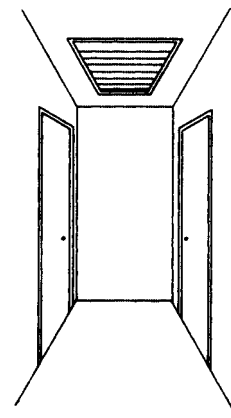

FIG. 16
STEP 7 - Insert shutter into opening from below and secure with wood screws provided. See Fig. 16. Make sure there is clearance between spring holder on shutter and the fan blade. Again, make sure that shutter opens and closes freely.